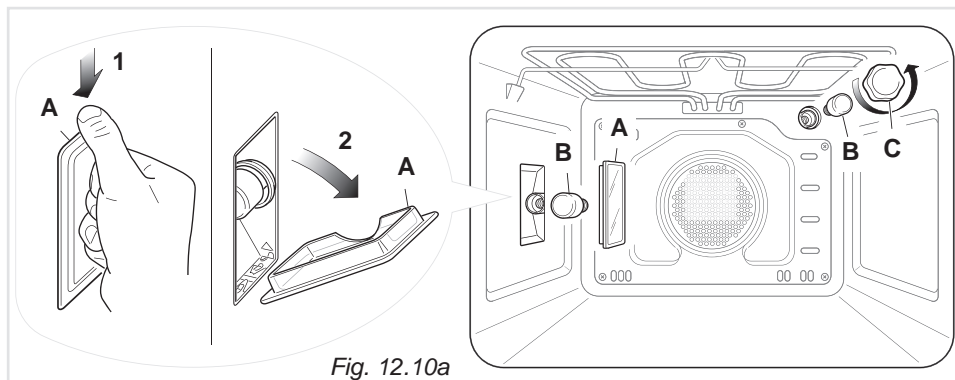

Fig. 12.10a
- Remove the protective cover "C" (fig. 12.10a).
- Press down from the top the protective cover "A" (fig. 12.10a) and remove it by rotating on the lower side.